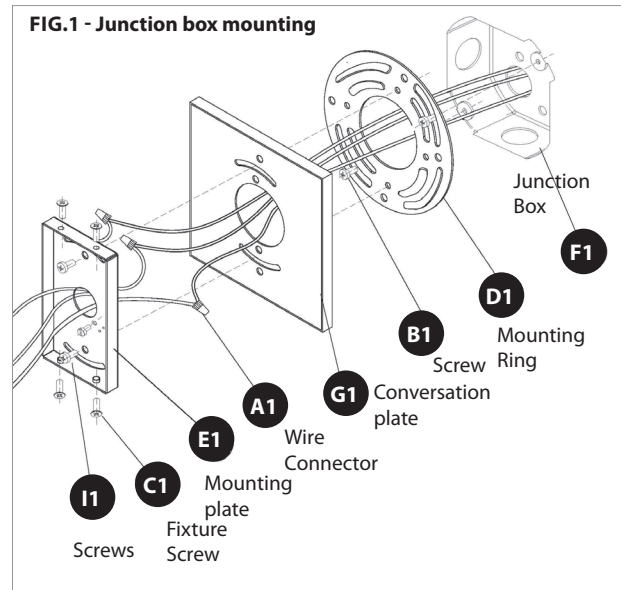

FIG.2 - Switch box moutning
For Switch Box (**Fig.2**)
2. Install the mounting plate to the junction box (See **FIG. 2**). Ensure the spacer alignment base is facing outward.